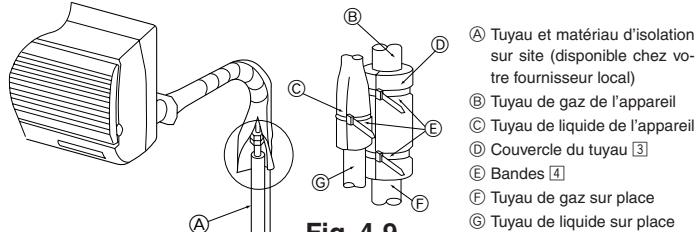

Fig. 4-9
■ PKFY-P12/P15NGMU-E (Fig. 4-9)